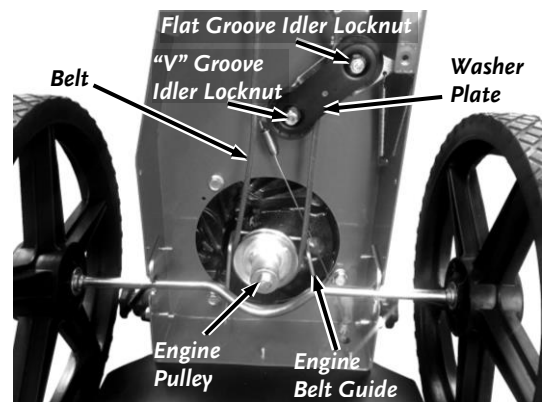

Figure 28
4. Remove the Locknut that secures the Washer Plate to the flat groove Idler Pulley using a 9/16" Wrench (**Figure 28**). Loosen the other Locknut to the V groove Idler Pulley using a 9/16" Wrench just enough so the Washer Plate can be rotated out of the way.
10. Rotate the Washer Plate onto the Flat Groove Idler Stud and install the Locknut using a 9/16" Wrench (**Figure 28**). Tighten both Idler Locknuts using a 9/16" Wrench.